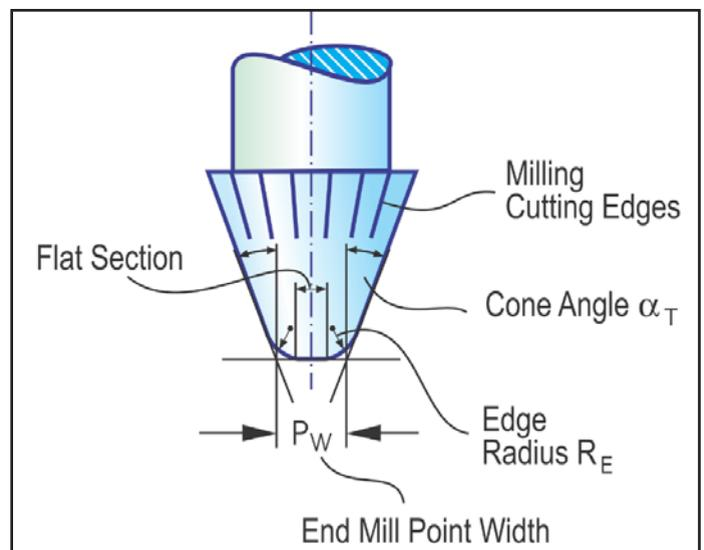

Figure 20 Conical end-mill with edge radius smaller than the fully rounded radius.
In the present case, the summary item 06 (Fig. 18) is 0.51 mm, which is smaller than the calculated maximum possible radius for  $R_E$ . In this case,  $R_E = 0.51$  is the correct edge radius for the end-mill. The end-mill design, according to the graphic (Fig. 20), will have a flat spot at the tip, connecting the two edge radii in the cross-sectional drawing (which will not form a fully rounded end-mill tip).